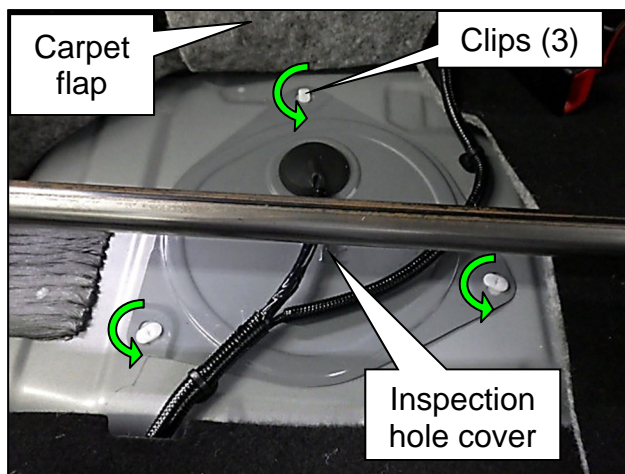
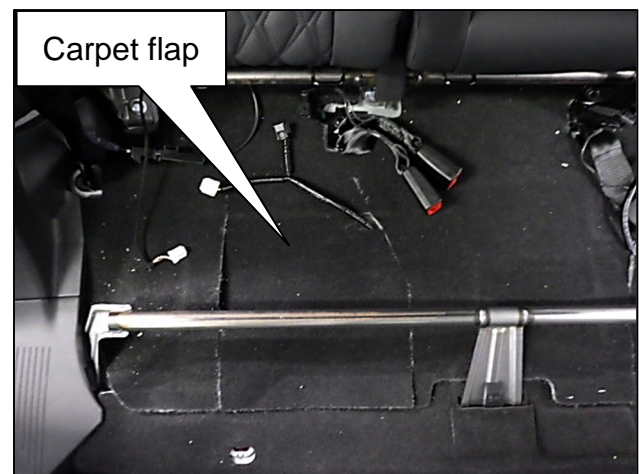

Figure 32
Figure 33
34. Install the inspection hole cover and lock the clips by turning counterclockwise 90 degrees (Figure 32), and then return the carpet flap to its original position (Figure 33).